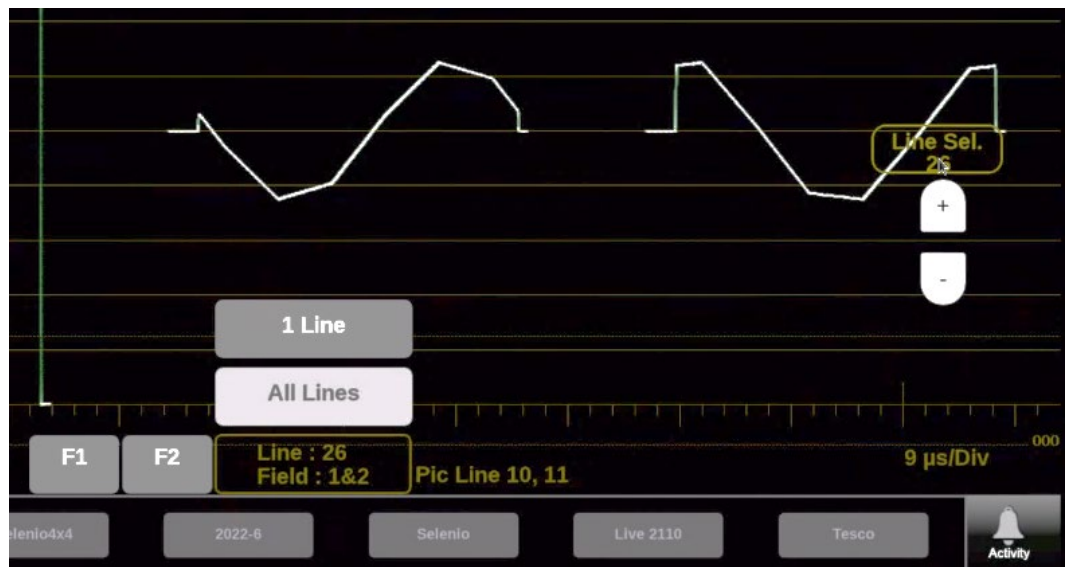

Figure 222: CIE on-screen tools – Pic Line number
1. Select the **Lines** button at the bottom of the tile. (see Figure 222).
- If a signal is SD, HD, 3G (see Figure 222):